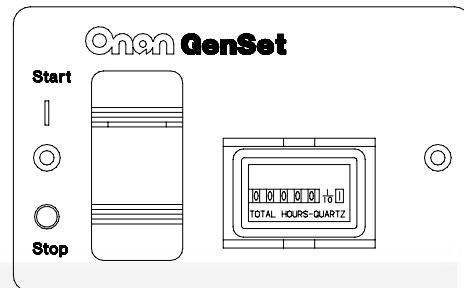

FIGURE 12. REMOTE SWITCH / HOUR METER
- Remote switch / status lamp and hour meter (Figure 12).